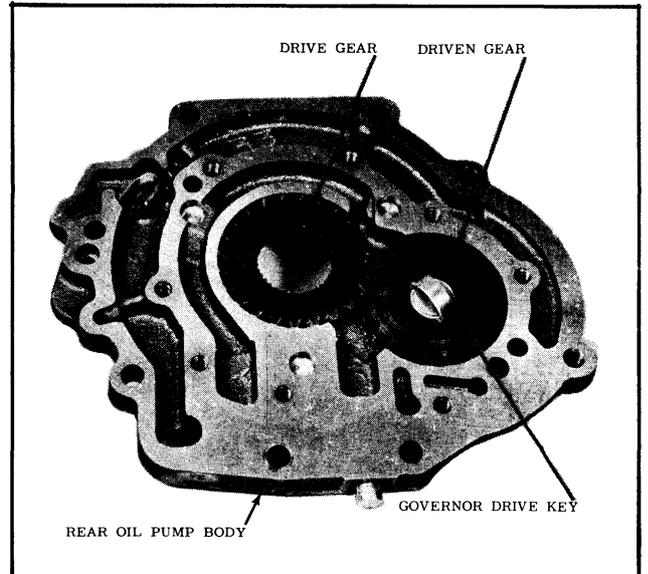

Fig. 3-108 Rear Oil Pump Gears
3. Remove governor drive key from driven gear. (See Fig. 3-108)